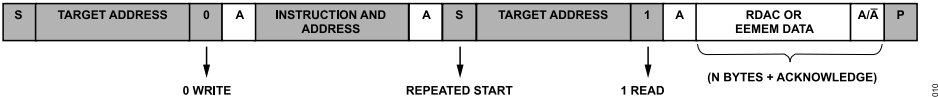

Figure 30. RDAC or EEMEM Random Read
Figure 30 illustrates a random RDAC or EEMEM read operation. This operation allows users to specify which RDAC or EEMEM register is read by issuing a dummy write command to change the RDAC address pointer and then proceeding with the RDAC read operation at the new address location.
3. In current read mode, the RDAC1 data byte immediately follows the acknowledgment of the target address byte. After an acknowledgment, a dummy read follows, then RDAC3, and so on. (There is a slight difference in write mode, where the last eight data bits representing RDAC3 data are followed by a no acknowledge bit.) Similarly, the transitions on the SDA line must occur during the low period of SCL and remain stable during the high period of SCL (see Figure 34). Another reading method, random read method, is shown in Figure 30.